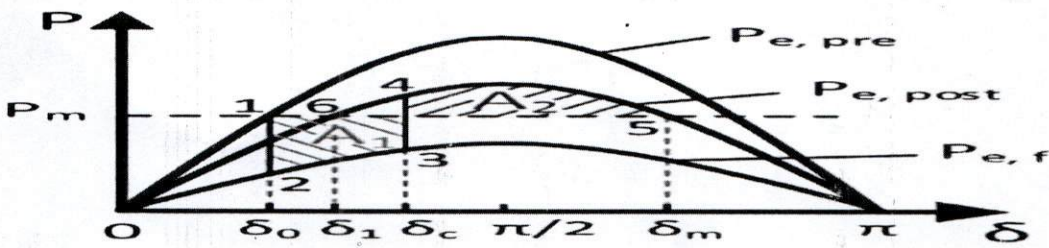

Fig. 1: P- $\delta$  curve
**2.2 Transient Stability Mechanism** In order to understand the different effects of the improvement techniques, the basics of transient stability assessment are briefly summarized by means of the well-known equal area criterion (EAC) [12, 13]. The EAC determines the transient stability limit according to the acceleration and deceleration area A1 and A2, respectively. The corresponding P -  $\delta$  diagram is shown in Fig. 1. The physical relation between the mechanical and electrical quantities is given by the equation of motion shown in (1). Generators are accelerating or decelerating once there is a mismatch between mechanical power supplied to the turbine and electrical power delivered to the grid.  $P_a = P_m - P_e = J\omega_0 \frac{d^2\delta}{dt^2}$  (1) The stability limit is derived by calculating the maximum clearing angle and, based on that, the critical clearing time (CCT) which describes the time that the generator takes to advance from the initial rotor angle to the critical rotor angle. Hence, the greater the CCT, the more severe disturbances the generator (system) can withstand.